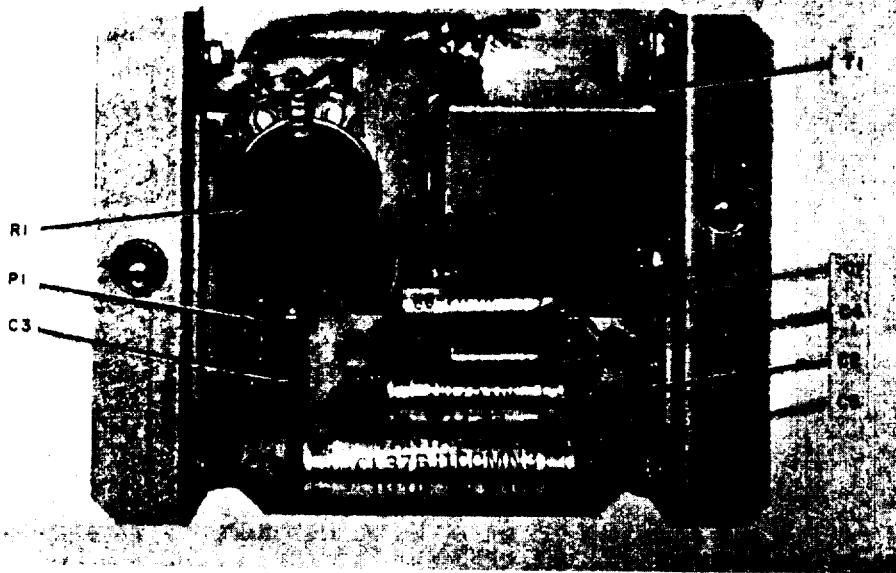

Figure 2-25. Inverter, bottom view.
b. Connect one end of the test set cable W4 to the test set and the other end to connector PI on the inverter (fig. 2-25). The length of the cable will permit bench tests on the in-
a. Test the transistors with Transistor Tester TS-1836/U (figs. 2-25 and 2-26).